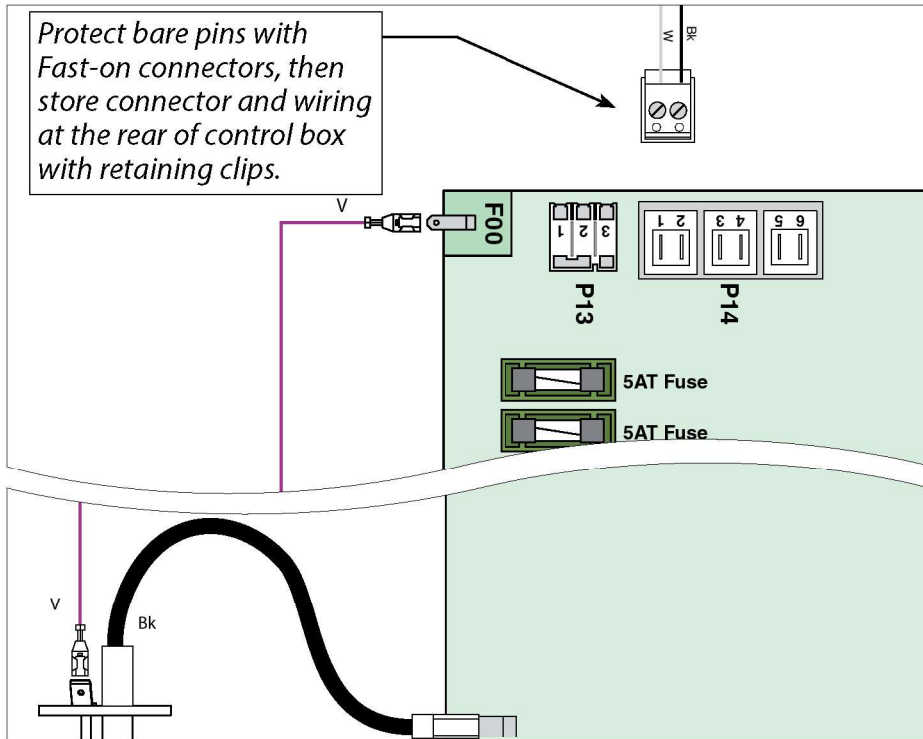

Fig. 13 - Prestige Solo & Excellence - PCB Wiring - Pre modification
1. Disconnect violet wire (ionization current return) (See Fig. 13) from circuit board ground connection. Discard the wire.
5. Reconnect all wire terminals to the new circuit board terminals, except P14, 1&2 (See Fig. 13).